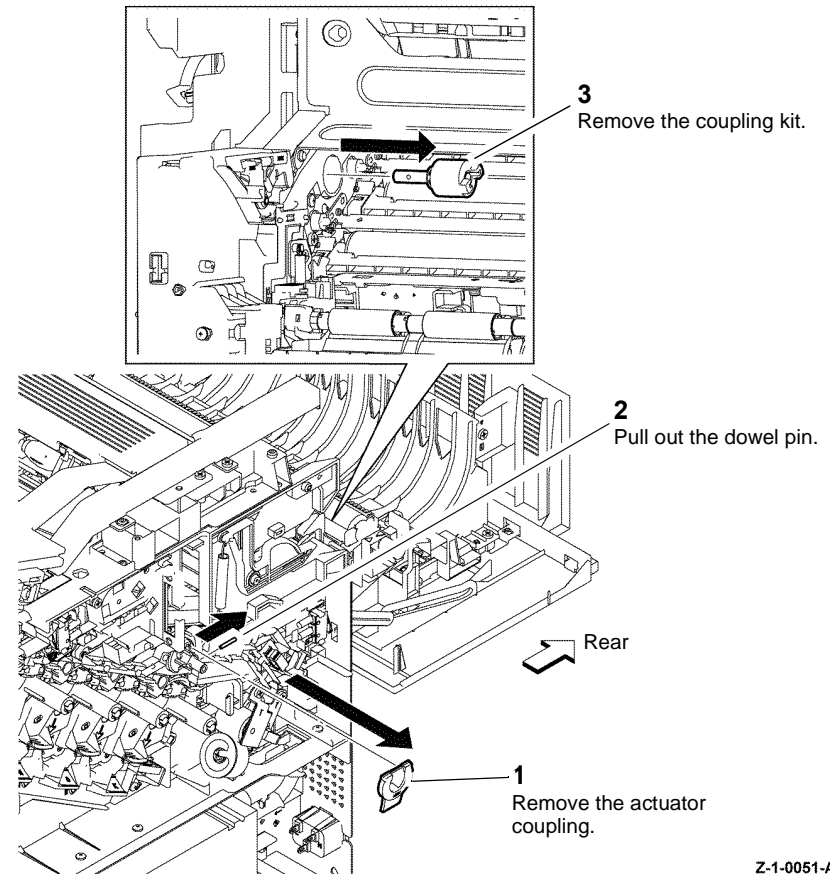

Figure 1 Remove the coupling kit
4. Remove the coupling kit, Figure 1.